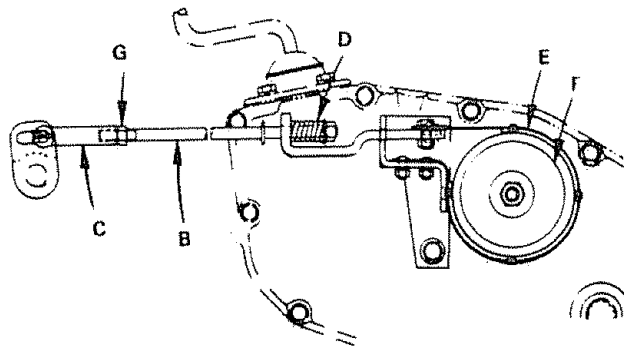

FIGURE 22
- Loosen jam nut (G) on brake rod (B) at clevis (C) (Fig. 22). If you find it difficult to loosen jam nut (G), remove cover plate in L.H. frame rail.
- Rotate brake rod (B) counterclockwise (↺) turning brake rod out of clevis (C) four to six turns.
- g. Shut engine off. Rotate brake rod (B) clockwise (↻) by hand, turning brake rod into clevis (C), until tight. Tighten jam nut (G) on brake rod. (B) at clevis (C) (Fig. 22).
- h. Reinstall shift cover plate and four (4) mounting screws. Replace cover plate if removed in step (b).